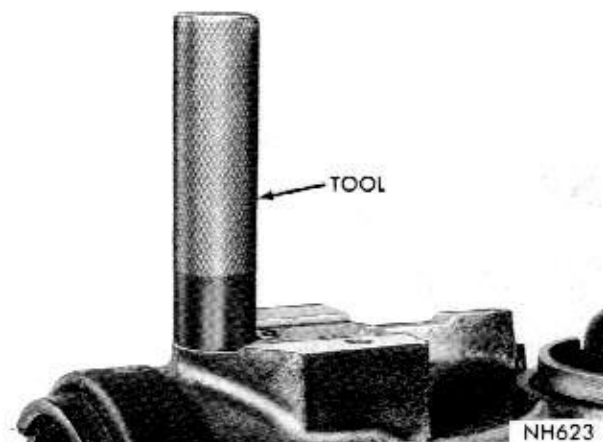

Fig. 24—Aligning Center Bearing Spacer With Steering Valve
(53) Align valve lever hole in center bearing race and spacer exactly with the valve lever hole in the gear housing. Turn the housing head by tapping on a reinforcing rib with hammer and drift. Use Tool C-3649 to maintain alignment (Fig. 24).